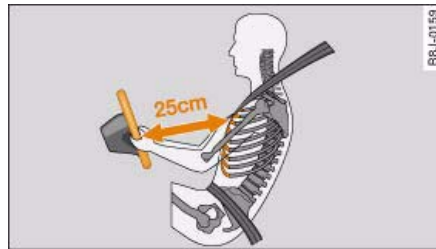

Fig. 173 Minimum distance between driver and steering wheel
- Adjust the steering wheel so there is a distance of at least 25 cm between the steering wheel and your breastbone ⇒ fig. 173.
- Adjust the driver's seat so there is a distance of at least 25 cm between your breastbone and the centre of the steering wheel ⇒ fig. 173.